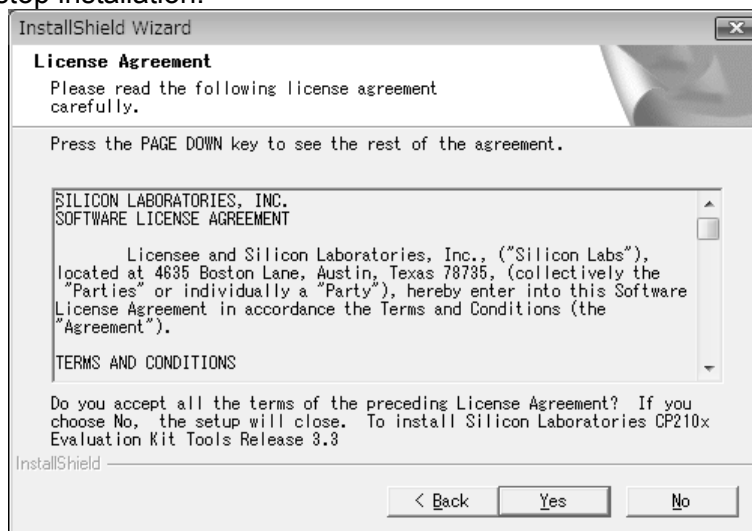

Fig. 54 Licence Agreement
(3) The "License Agreement" screen shown in Fig.54 appears. Click **Yes** to proceed with installation and click **No** to stop installation.